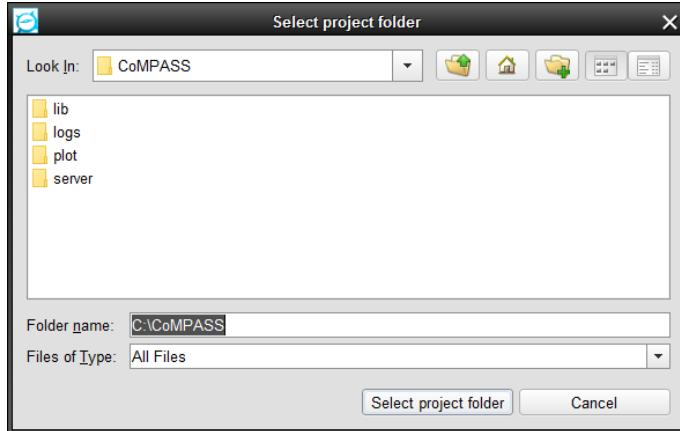

Fig. 4.3: CoMPASS New Project window.
- **New Project:** this function allows the user to start a new project (Fig. 4.3). The user have to select the folder in which the project will be created and then press on the button "Select Project Folder". If